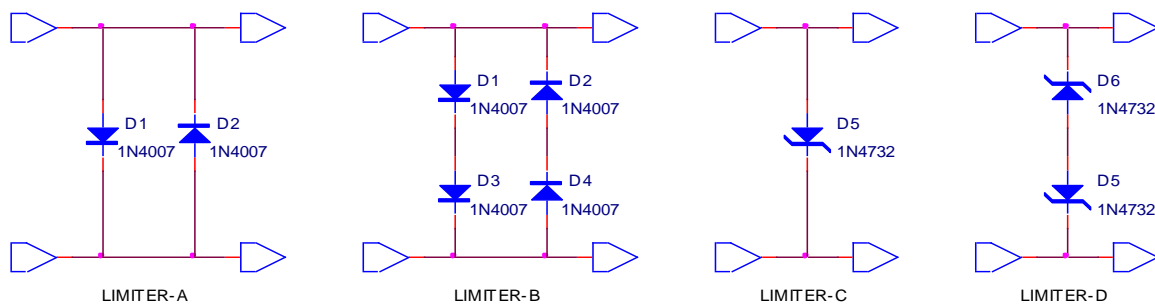

Figure E2.2b
- (b) Redraw Fig. E2.2b in your notebook and indicate in the figure which way current flows when  $V_{in} = +3.0\text{ V}$  and when  $V_{in} = -3.0\text{ V}$ .